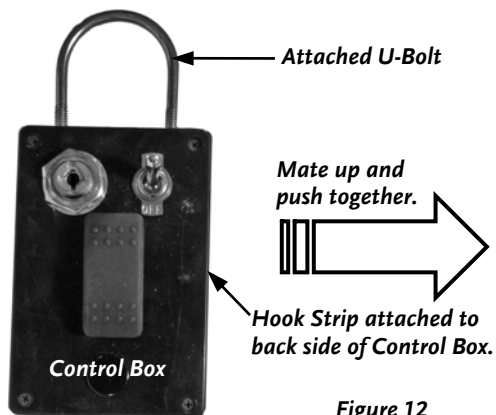

Figure 12
- Hang the Control Box by the attached U-Bolt (Figure 12) in an accessible and comfortable position on your Tow Vehicle from which you can operate the Control Box; or,
- Attach the Control Box on a clean flat surface using the self-adhesive Hook and Loop strips provided with the DR ROTO-HOG POWER TILLER (Figure 12).